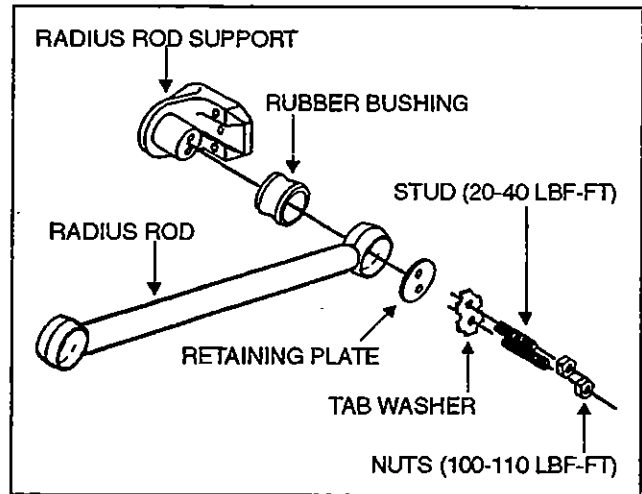

Figure 7
- Flatten the tab washer which secures the two retaining nuts (or bolts), then unscrew the nuts (or bolts) at each extremity of the radius rod (see fig. 7).